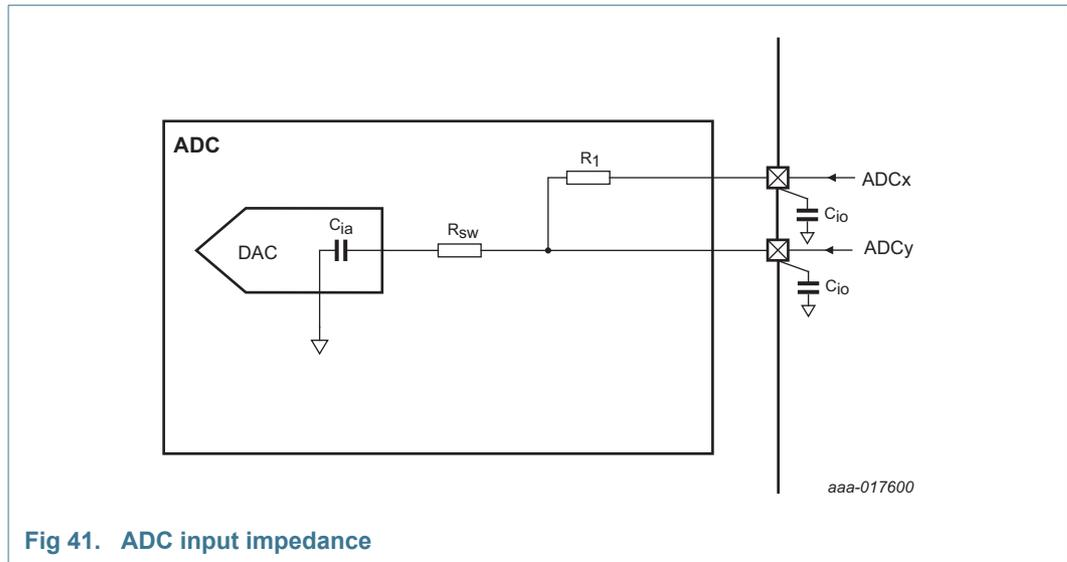

Fig 41. ADC input impedance
- [10] Input impedance Z_i is inversely proportional to the sampling frequency and the total input capacity including C_{ia} and C_{io} : $Z_i \propto 1 / (f_s \times C_i)$. See Table 21 for C_{io} . See Figure 41.
- (1) Example of an actual transfer curve.
- (2) The ideal transfer curve.
- (3) Differential linearity error (E_D).
- (4) Integral non-linearity ($E_{L(adj)}$).
- (5) Center of a step of the actual transfer curve.
Figure 41 shows the ADC input impedance. In this figure: